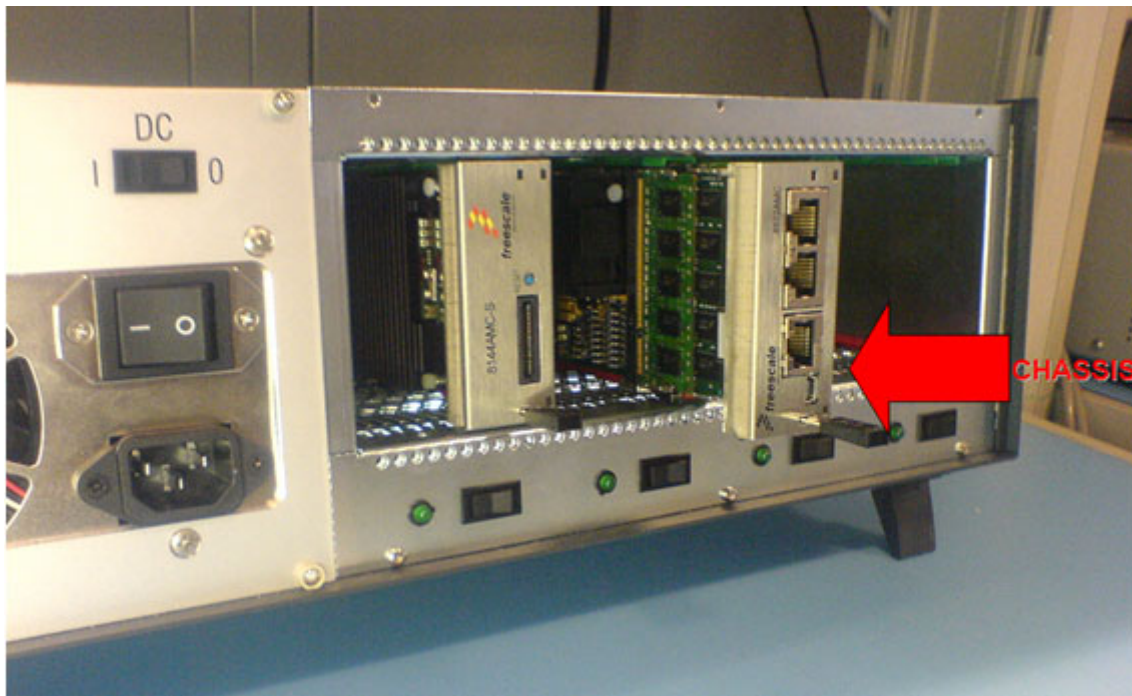
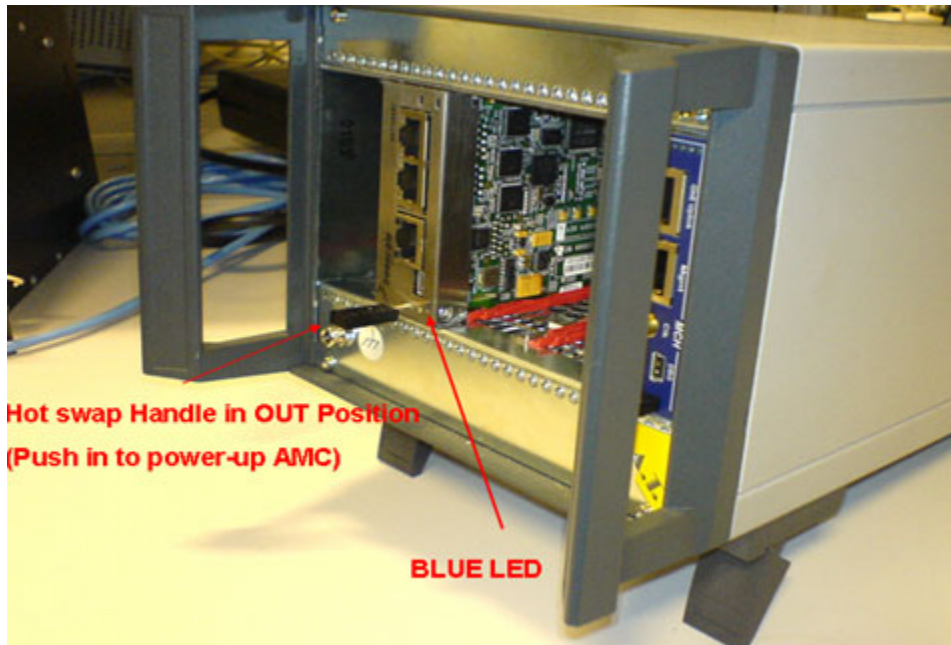

Figure 3. Inserting the MPC8572EAMC into a Chassis
Figure 6. Hot Swapping in a Chassis
2. Freescale recommends running the AdvancedMC in an ATCA, microTCA, picoTCA chassis or equivalent. This delivers the correct power and air flow to the board. The board should be inserted into the carrier chassis as per the specific carrier instructions. Please ensure the card is inserted the correct way. An example is shown in Figure 3.
While the chassis shown in Figure 6 is MMC-compatible, the chassis shown in Figure 3 is not.